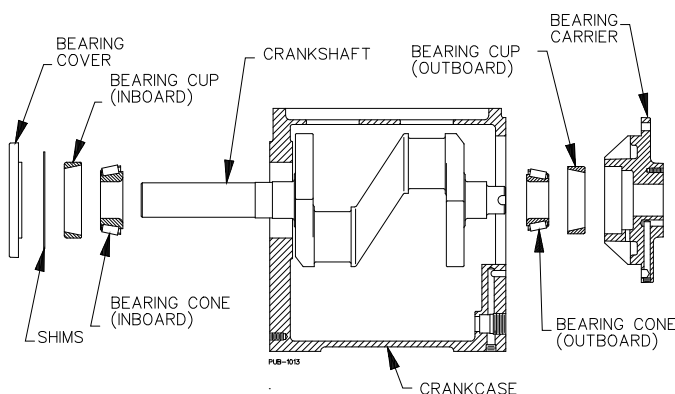

Figure 13 - Bearing Locations
- b. Referring to Figure 13 for the proper orientation, carefully press the inboard bearing cup into the crankcase until it is flush with the outer surface of the crankcase.